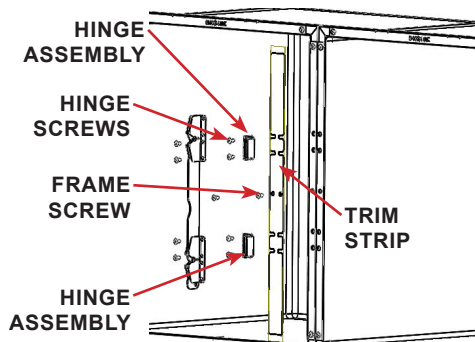

FIGURE 2.40 - Trim Strip Installation
**STEP 17:** Remove the latch, hinges and center frame screws to install a trim strip by following Phase I-STEP 18-20. See FIGURE 2.40